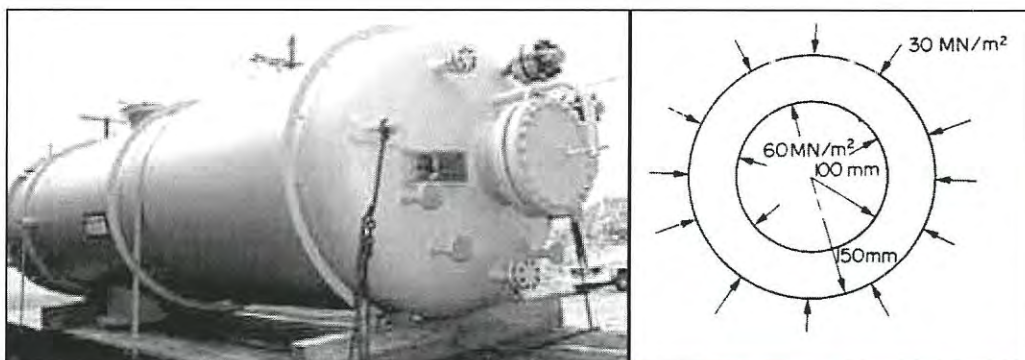

Figure Q5
**Q5** **Figure Q5** shows a thick cylinder of **[A]** mm internal radius and **[B]** mm external radius is subjected to an internal pressure of  $60 \text{ MN/m}^2$  and an external pressure of  $30 \text{ MN/m}^2$ . Determine the hoop and radial stresses at the inside and outside of the cylinder together with the longitudinal stress if the cylinder is assumed to have closed ends using analytical and graphical approaches.